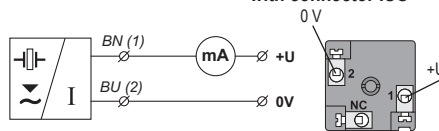
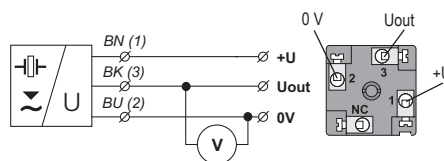
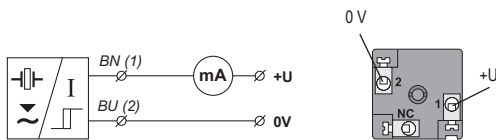
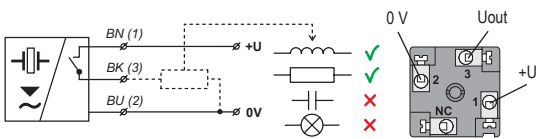

Fig. 15: Connection diagram of the ULM level meter (variant -I) and inside view of the connector
Fig. 16: Connection diagram of the ULM level meter (variant -U) and inside view of the connector
Fig. 17: Connection diagram of the ULS sensor with S type output (two-state current switch 4 mA / 20 mA)
Fig. 18: Connection diagram of the ULS sensor with P type output (PNP) with an open collector
The UPS level meter or ULS level sensor with a G type cable gland are connected to processing (display) units by means of a cable with an outer diameter of 6 to 8 mm (recommended wire cross-section 0.5 to 0.75 mm²), via a detachable ISO connector with inner screw terminals, which is part of the delivery. The connection diagram and the inner view of the connector are shown in Fig.15 and 16. Non-detachable connector IP67 with PVC cable 5 m long can be supplied as an extra option.
- Connect the cable wires to the screw terminals as shown in Fig. 15 (current output 4-20 mA), Fig. 16 (voltage output 0-10 V), Fig. 17 (S type output) or Fig. 18 (P) type output. Tighten the terminals firmly.